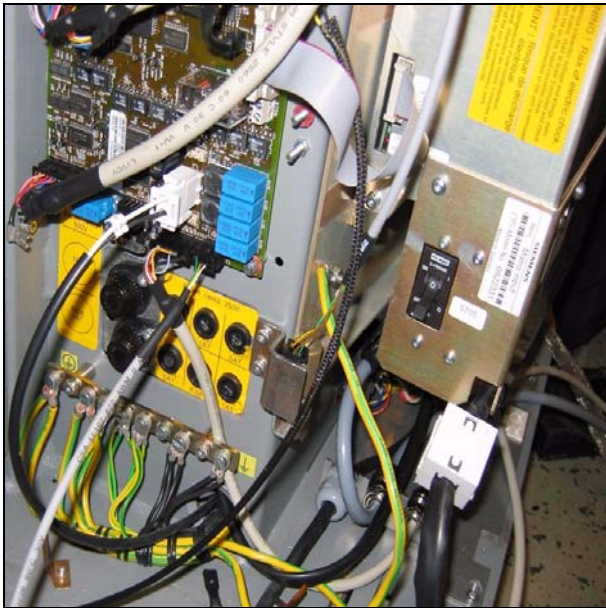

Fig. 3
- Attach the connector to the master board D750 according to Fig. 3.